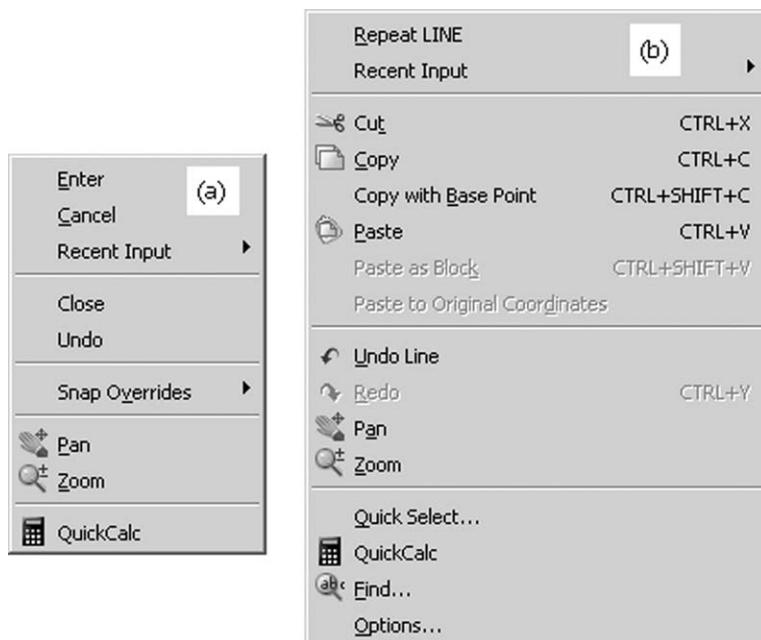

Figure 3.3 Shortcut menus to (a) end the LINE command and (b) repeat the LINE command.
- a) shortcut menu will be displayed as Figure 3.3(a)
- 10 a) Right-click the mouse to display the Figure 3.3(b) shortcut menu again
- c) When a command has been completed, a mouse right-click will display a shortcut menu as Figure 3.3(b) with the **LAST COMMAND** available for selection, e.g. Repeat LINE.